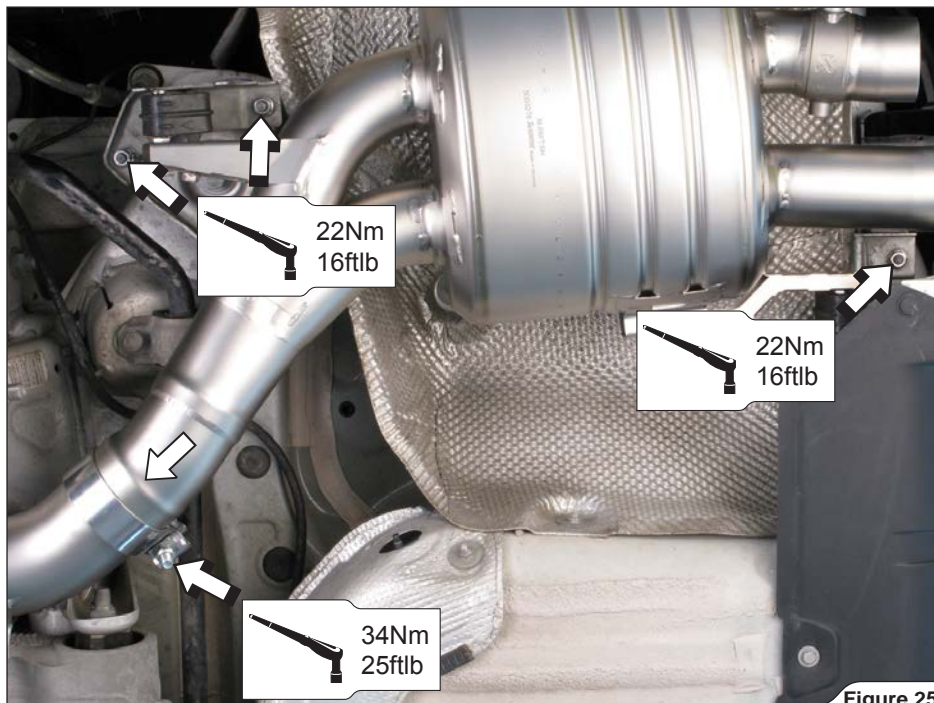

Figure 25
7. Slide both mufflers all the way onto the collector's outlets, tighten all stock rubber brackets (using stock nuts) onto the chassis, center the mufflers in respect to the rear bumper's tail pipe outlets and tighten the clamps (**Figure 25, 26**).